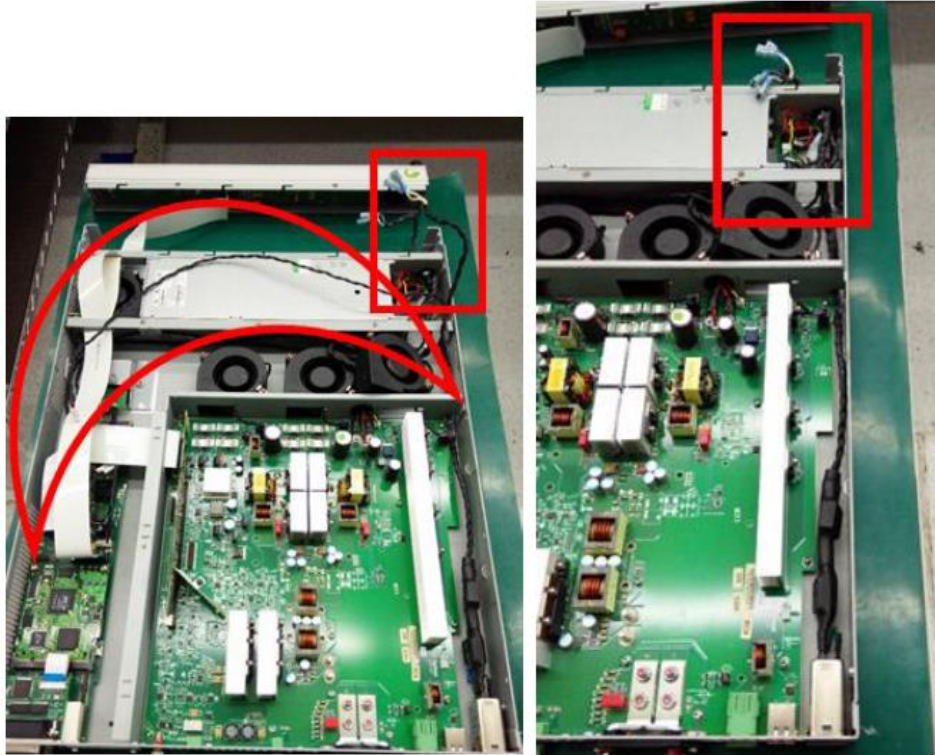

Figure 15
16. Route AC line through chassis hole until front panel. Another AC line cable will be insert into constellation PCA as shown Figure 15.